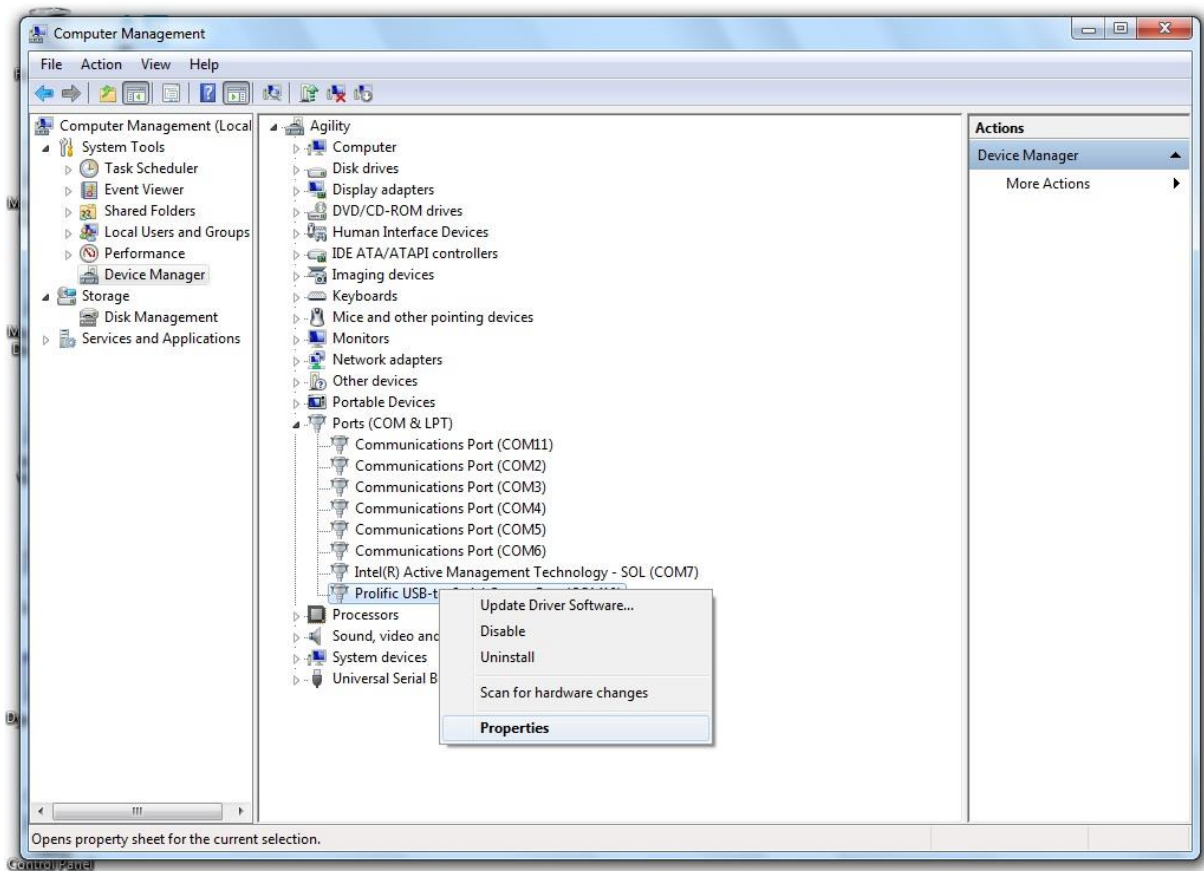

Figure 2-10: COM Port Selection
1. Right click on Properties to present the properties listing (Figure 2-10).